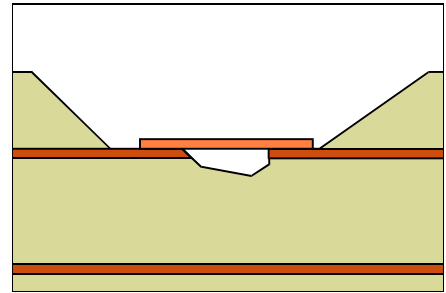

Figure 4: Circuit Track in place ready to be soldered.
- Place the Circuit Track in position. The Circuit Track should overlap the existing circuit a minimum of 2 times the circuit width. (See Figure 4).